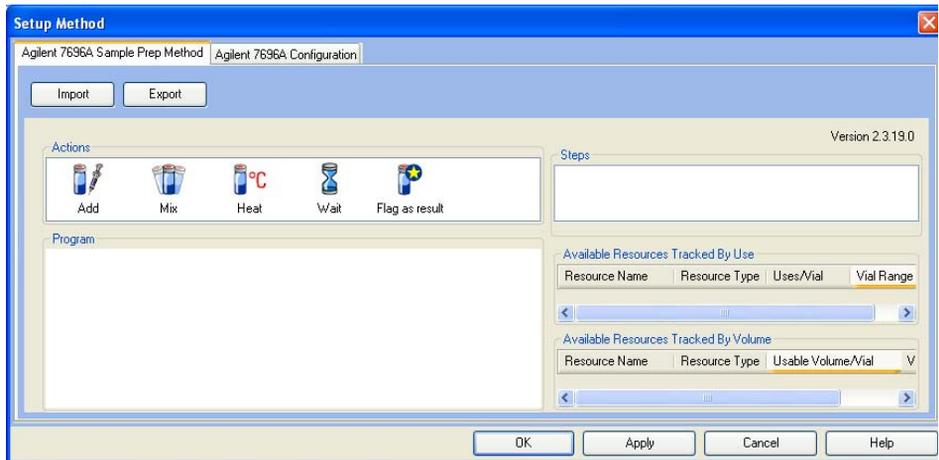

Figure 4 Setup Method
- 3 Navigate to **Method > Edit Agilent 7696A Parameters...** to create a sample preparation method using Setup Method (Figure 4).